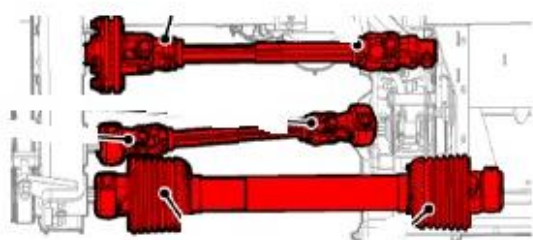

Figure 23
1. Remove the drive shafts from the left-hand GT case. This is done by pressing the release on each end of the shaft. Remove the bolt retaining the clutch shaft to the GT case. Figure 23